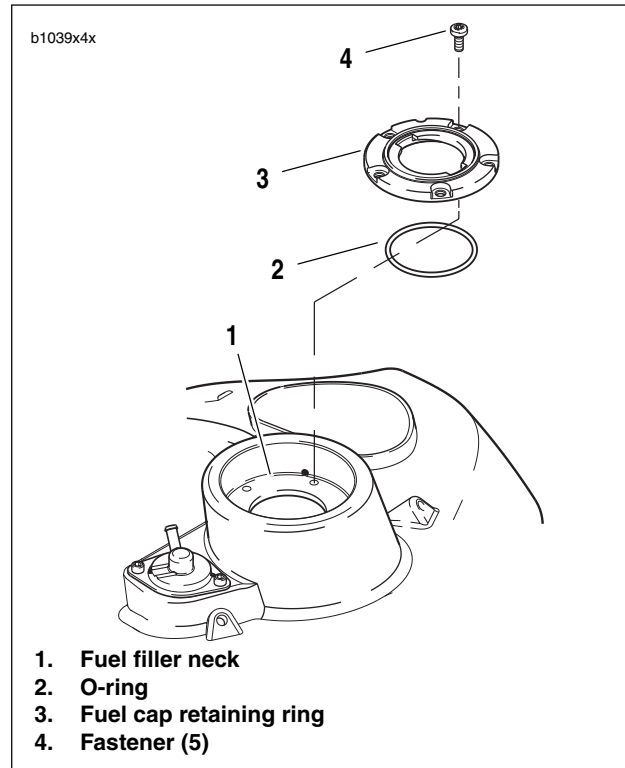

Figure 4-105. Fuel Cap Retaining Ring
3. See Figure 4-105. Remove fasteners (4) securing fuel cap retaining ring (3) to fuel filler neck (1).
4. Remove fuel cap retaining ring and o-ring (2). Discard o-ring.